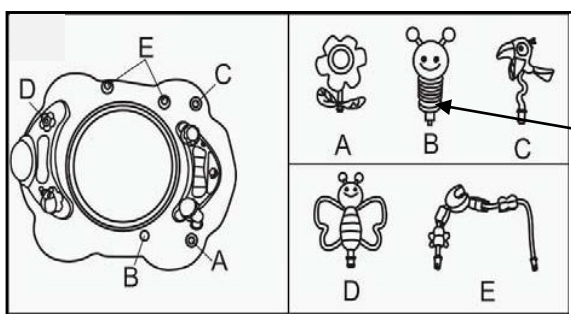

Figure 12
- Insert toys into the designated cavities as per **Figure 12**, and be sure they are securely connected.